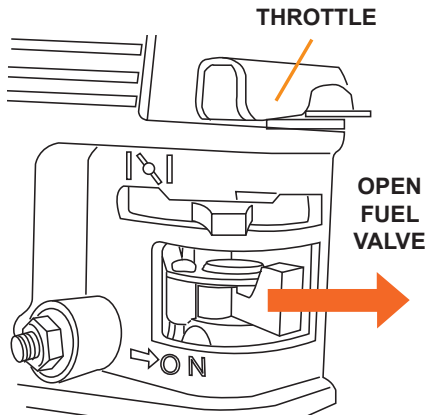

Figure 1
1. Turn the engine's fuel valve to OPEN (see Figure 1).
3. Move the throttle lever away from the SLOW position, about 1/3 of the way toward the FAST position (see Figure 1).